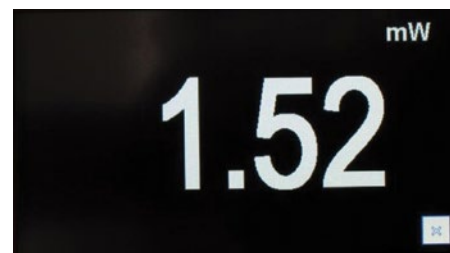

Figure 19
- f) 90° FullScreen: switch to a full screen high visibility / high contrast display (figure 19) showing only the measurement digits and the unit of measurement. Click the “X” button to return to the main screen.